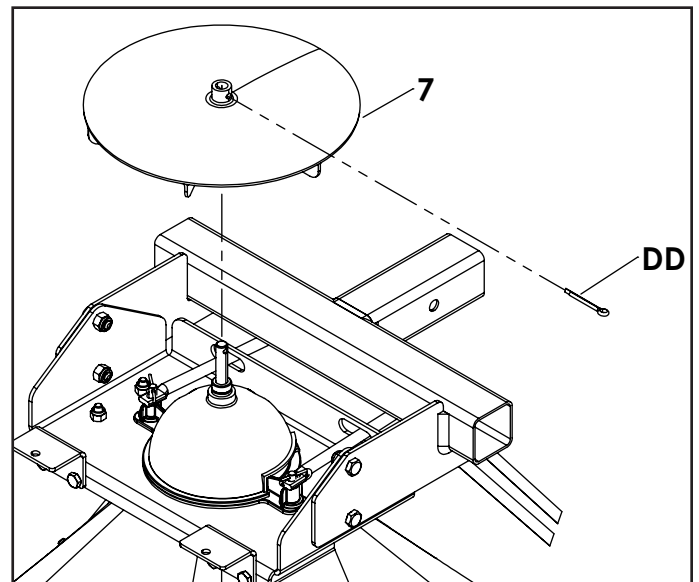

FIGURE 16
STEP 16: (SEE FIGURE 16)
- Install spreader impeller (7) onto the impeller shaft as shown lining up the holes.
- Install a hair cotter pin (DD) through the spreader impeller (7) and impeller shaft (8).
- Spread the ends on the hair cotter pin (DD).